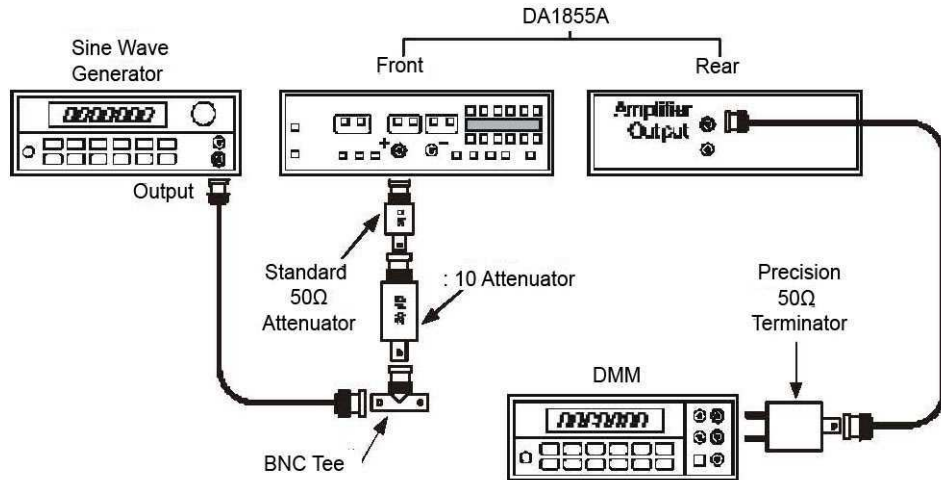

Figure 13, X10 Gain Accuracy Setup
- t. Insert the precision $50 \text{ } \Omega$ termination between the other end of this cable and the input of the DMM. See Figure 13.